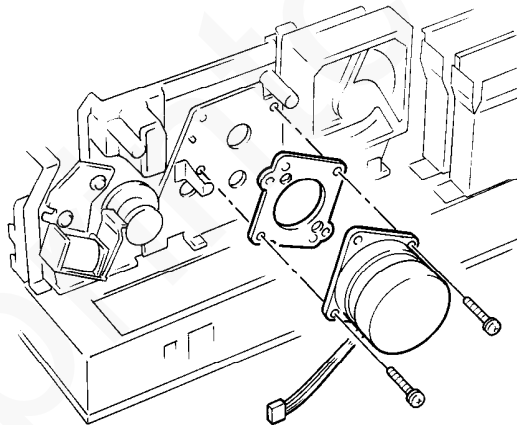

Figure 1. Print motor
5. Remove the two screws retaining the print motor to the chassis (figure 1).